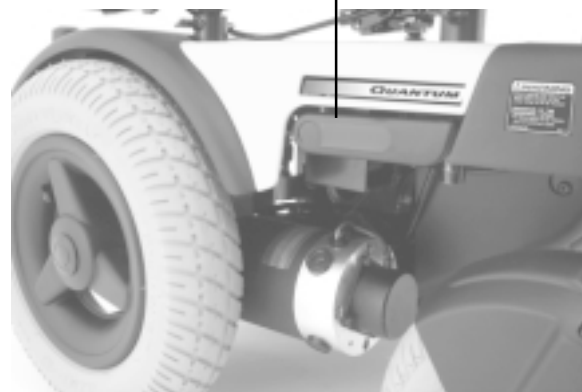

Fig. 7. Drive Motors Engaged (Drive Mode)
3. Make sure that the power chair is in drive mode. See figures 7 and 8.
This lever allows you to disengage the drive motors and maneuver your Blast manually. See figures 7 and 8.